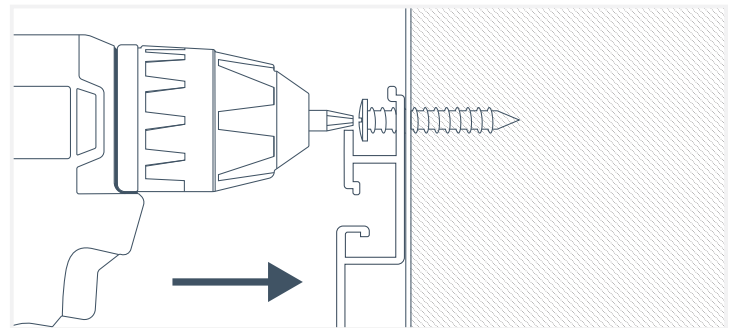

Fig. 4
- Screws must be installed straight and level to allow for movement (Fig. 4)